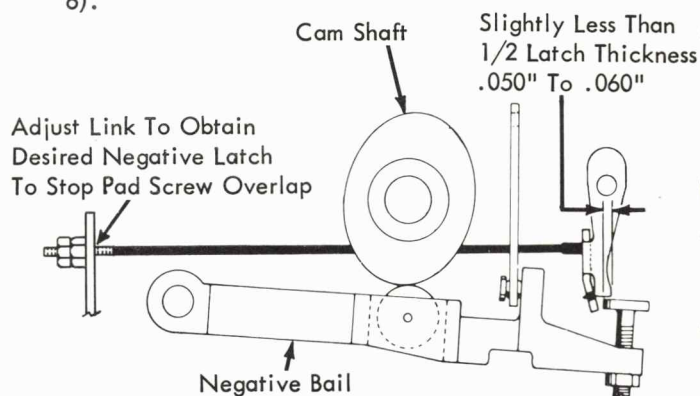

FIGURE 6. Negative Latch Link
8. Selector Latch Link - With the machine at rest adjust the negative 5 latch link so that the negative 5 latch will overlap the stop screw head by .050" to .060" (Fig. 6).
- b. The selector latch link adjustment (Fig. 6) must be correct before making the pusher to latch extension adjustment.